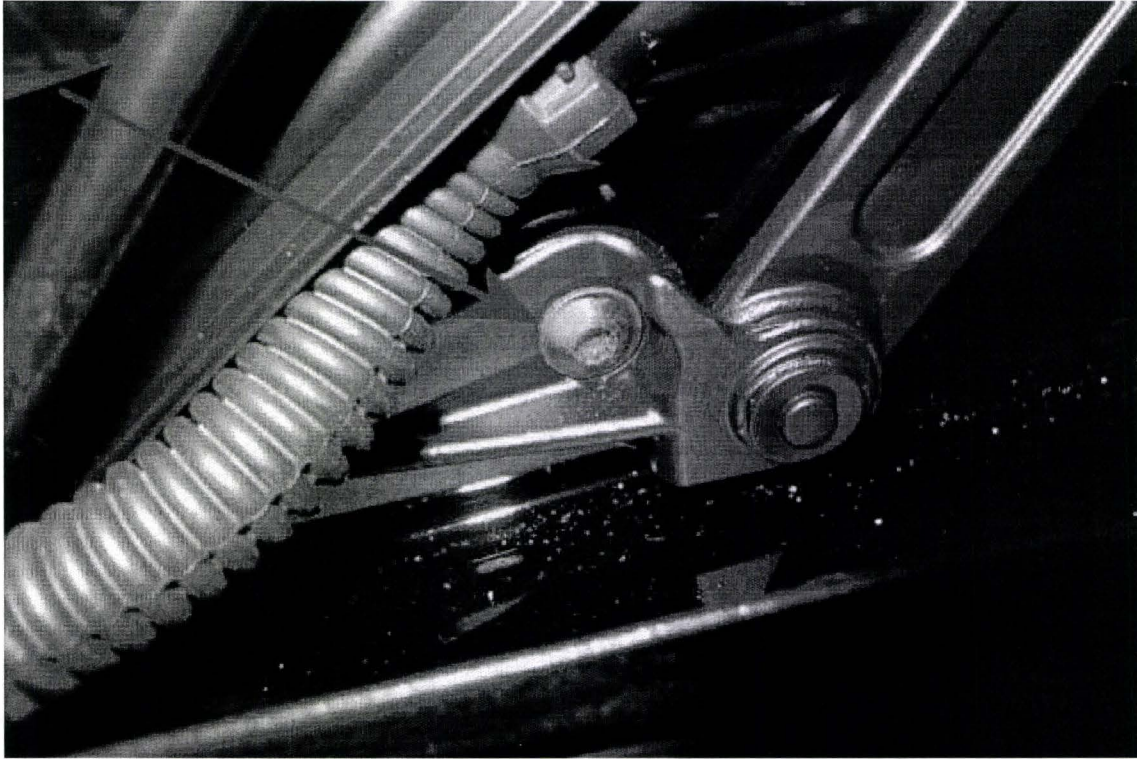

Figure 6
4. Place a Yellow paint completion mark on the Left hand rear boot hinge front fixing (Figure 6)
Yellow paint completion mark on the left hand front fixing (Figure 6)